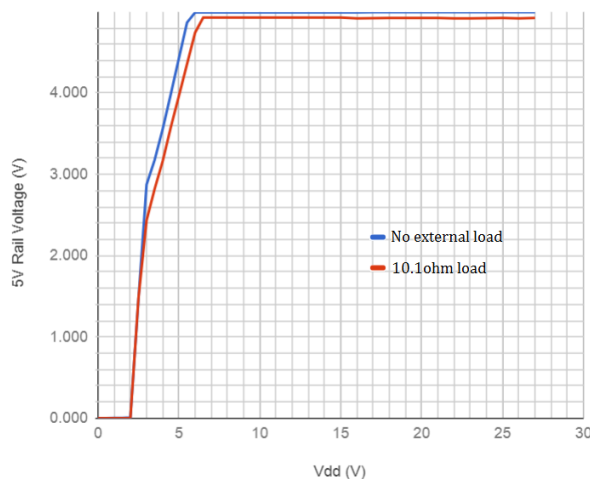

Figure 1.1. 5V rail dropout voltage
**Note 2:** See Section 1.3.1 (Figure 1.1. 5V rail dropout)